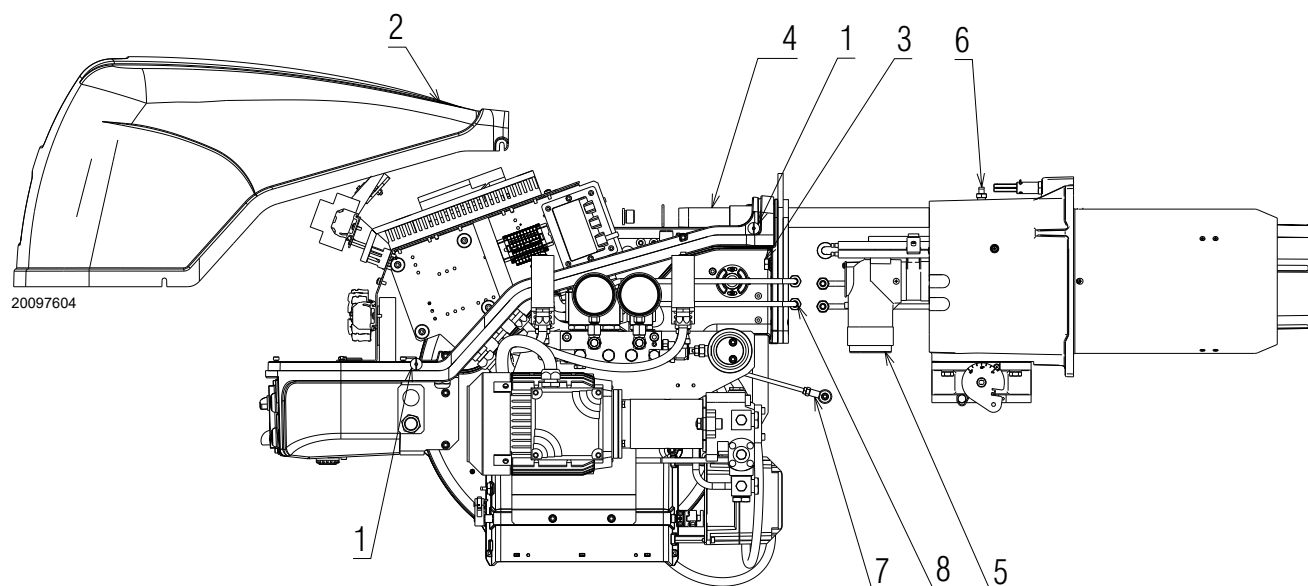

Fig. 53
Open the burner and make sure that all components of the combustion head are in good condition, not deformed by the high temperatures, free of impurities from the surroundings and correctly positioned. If in doubt, disassemble the elbow fitting 7)(Fig. 53, page 41).
- Loosen screws 1)(Fig. 53) and with draw the cover 2);
- refit screws 3)(Fig. 53) and pull the leads gently out until they are slightly stretched;